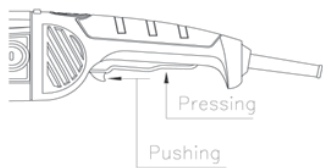

**Figure 7**
- 2) Start the tool by pushing forward on the switch, then pressing the trigger of switch down slightly. (figure 7)